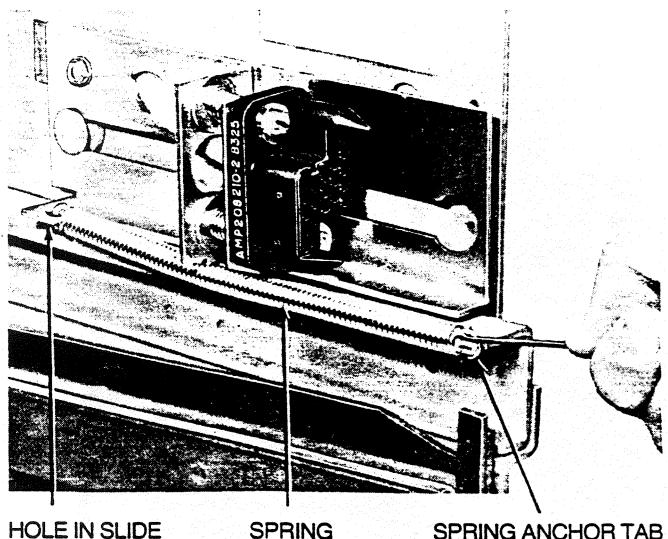

Figure 10
3. Attach spring to spring anchor hole in slide and spring anchor tab in Figure 10.